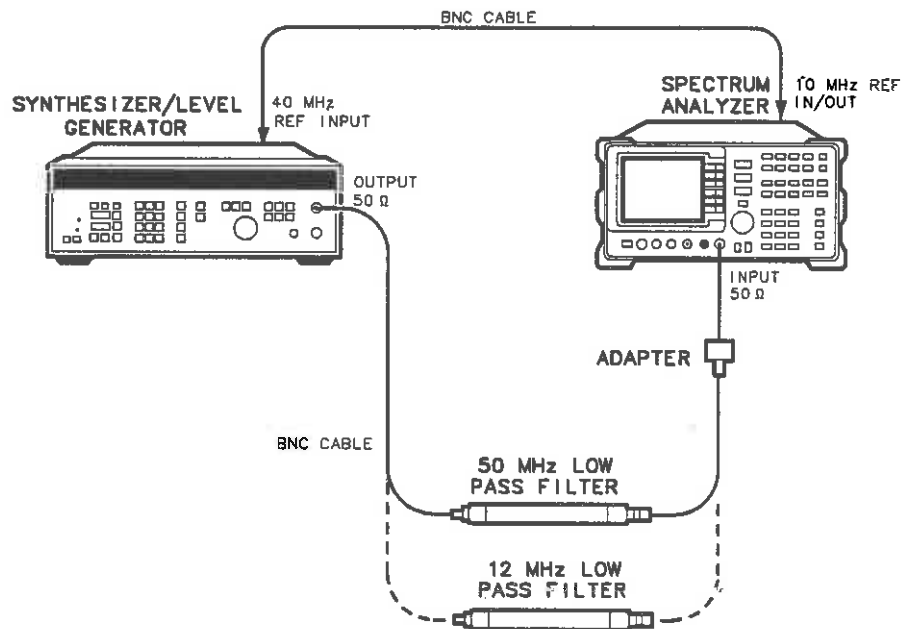

Figure 3-16. Second Harmonic Distortion Test Setup
1. Connect the equipment as shown in Figure 3-16, using the 12 MHz low-pass filter. The spectrum analyzer provides the frequency reference for the synthesizer.